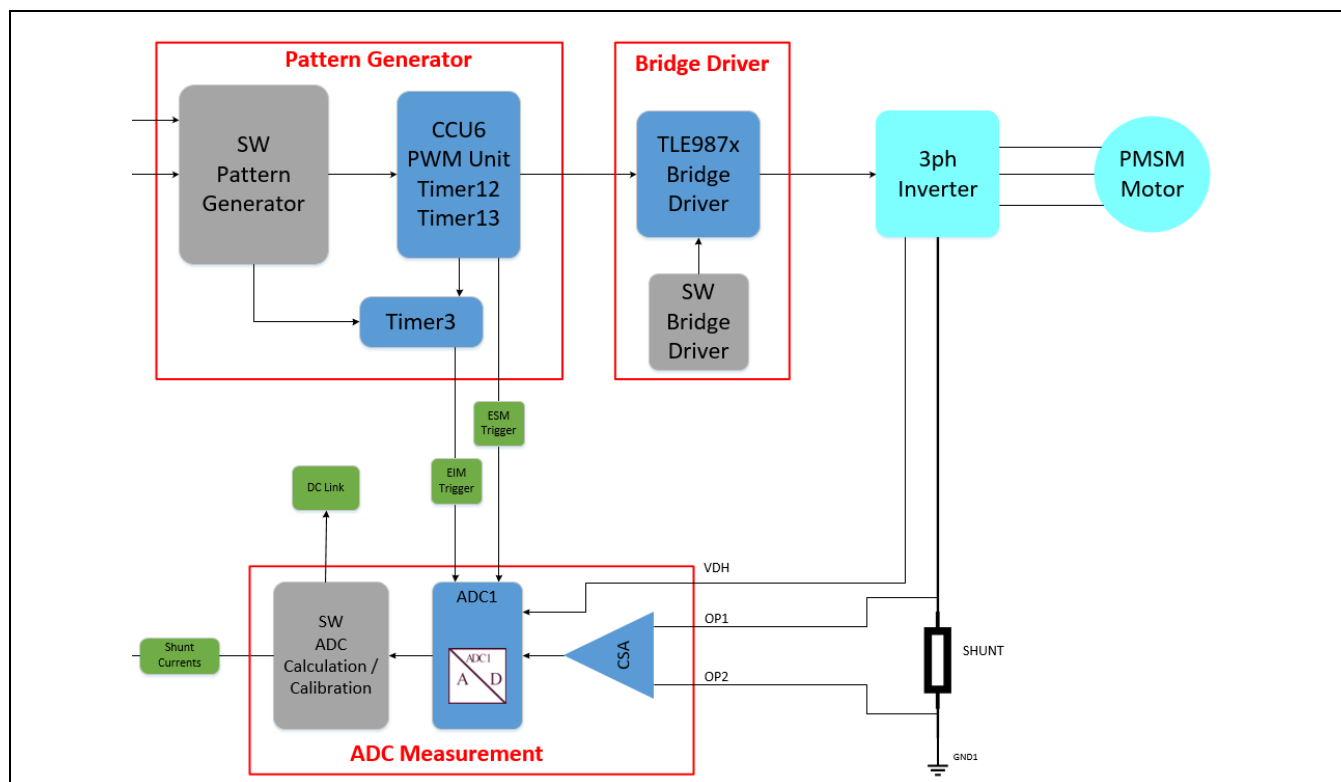

Figure 17 **Pattern generator, Bridge Driver and ADC measurement blocks**
8. The pattern generator block (Figure 17) provides the PWM signals to drive the 3ph inverter, based on the reference voltage and angle inputs from the SVM module. The CCU6 module of the TLE987x generates the PWM signals in center-aligned mode, using the timers T12 and T13. The Timer3 module is used to generate the EIM (exceptional interrupt measurement) event for the ADC measurement.
9. In the ADC measurement block (Figure 17), the CSA (current sense amplifier) of the TLE987x is used to sense the current of the motor, fed into the TLE987x ADC1 converter that takes also care of measuring the motor supply voltage (VDH). The ADC measurement is triggered by EIM and ESM (exceptional sequence measurement) events, generated by the CCU6 module and Timer3. The SW of the ADC measurement is used to calibrate the current offset during the initialization phase.
10. Finally, the bridge driver integrated in the TLE987x (Figure 17) drives the MOSFETS of the 3-phase inverter, using the PWM signals from the CCU6 module. The bridge driver SW manages the fault conditions detected by the hardware.